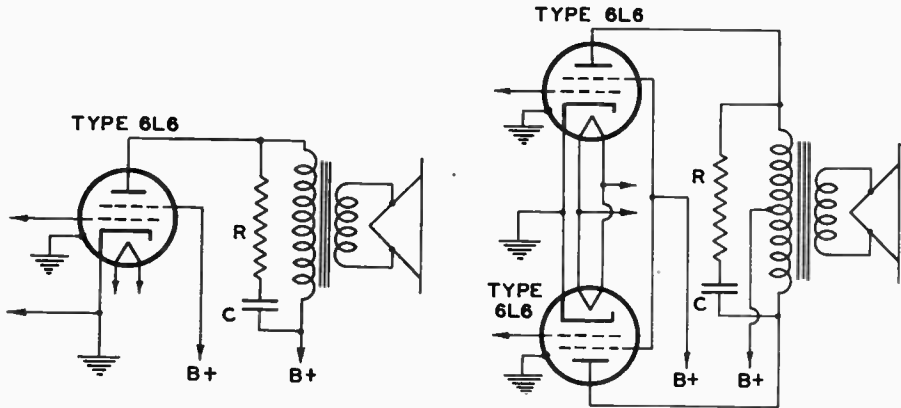

FIG. 1
Because the load impedance of a dynamic speaker acts like an inductance and resistance in series at frequencies higher than the resonant frequency of the speaker, a suitable resistance-capacitance filter, connected as shown in Fig. 1, can be used to compensate for the variable reactance of the load. Resistance (R) in Fig. 1 is made equal to the load impedance into which the output tube or tubes should work; capacitance (C) is adjusted to give a frequency characteristic which is substantially flat over a desired frequency range.